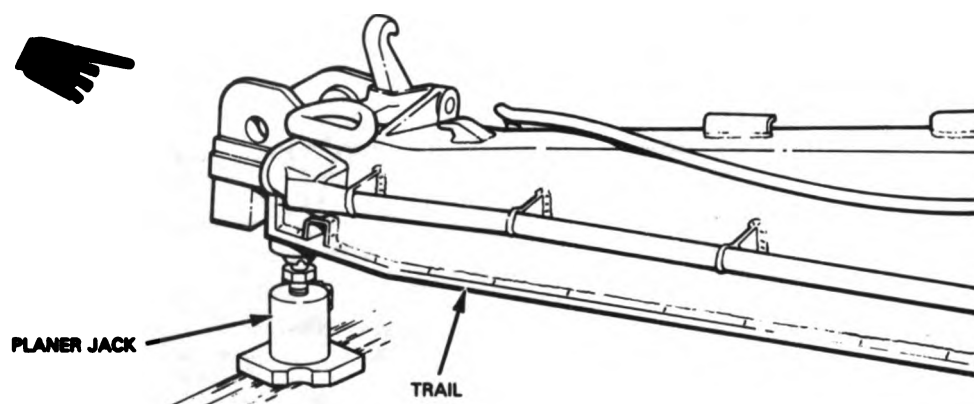

Figure 80.1. Planer jack implaced under trail.
(1) Positioning howitzer to plumb line and leveling trunnions.
- (d) Raise the trails and implace a planer jack (fig. 80.1) under each trail about 3 to 4 inches from the end. An alternative method consists of placing screw jacks (fig. 80.2) under the axle assembly as close to the wheels as possible.